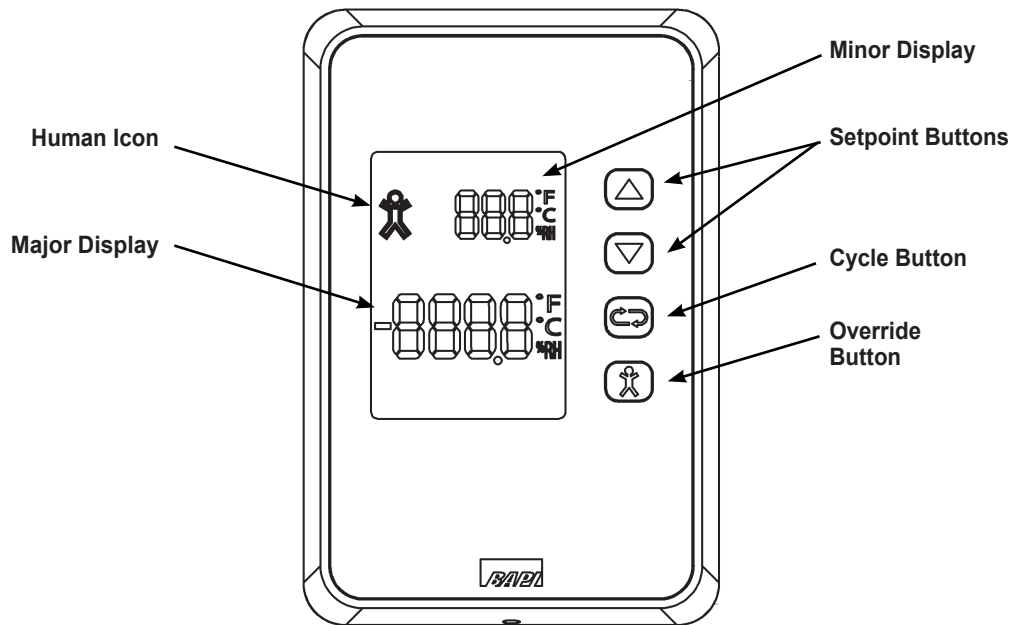

Fig. 7: BAPI-Stat “Quantum Prime” with Temperature and Humidity Setpoint and Override.
- Setpoint, Cycle and Override (4 buttons) as shown in Figure 7.